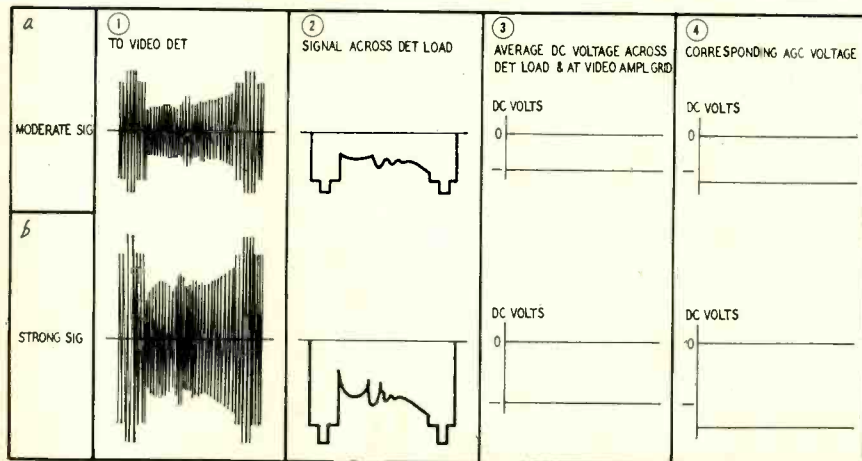

Fig. 2—Diagram shows various voltages related to agc circuitry.
2. The most important quick check is to measure the negative (dc) voltage across the video detector load resistor and then from the age bus to ground with an active channel tuned in. The voltages should be approximately equal (Fig. 2). (They may vary somewhat depending on the type of age system).